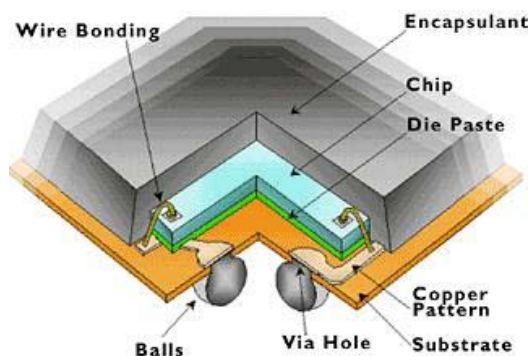

Fig 1. (L)(LF)(TF)BGA cross section
A cross section of the typical (L)(LF)(TF)BGA is shown in Fig 1.